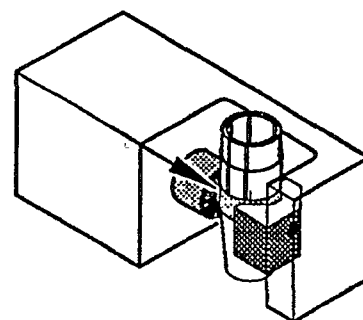

Fig 5.2 Clamp position
4. Clamp position C, refer to Fig 5.2